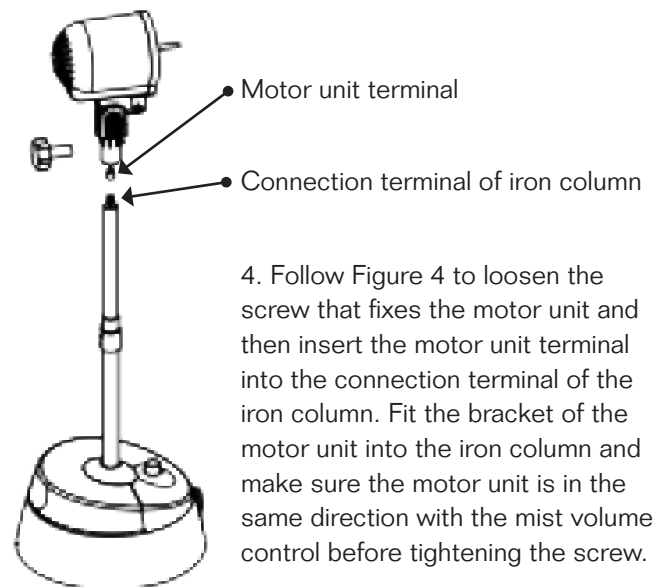

Figure 4
4. Follow Figure 4 to loosen the screw that fixes the motor unit and then insert the motor unit terminal into the connection terminal of the iron column. Fit the bracket of the motor unit into the iron column and make sure the motor unit is in the same direction with the mist volume control before tightening the screw.